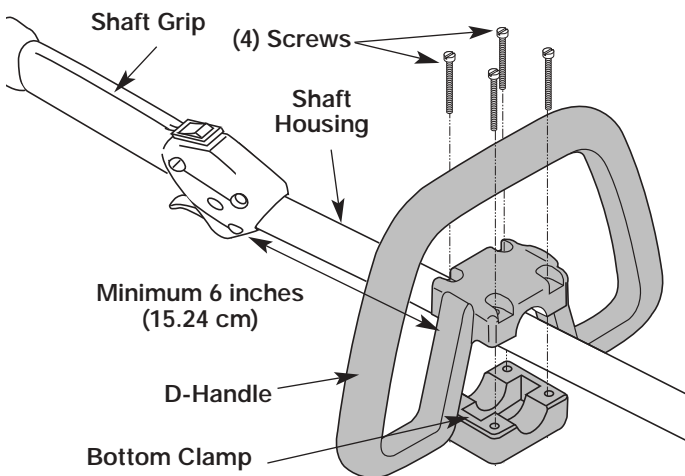

Fig. 2
2. Place D-handle over the shaft housing and onto the bottom clamp (Fig. 2). Place it a minimum of 15.24 cm (6 inches) from the end of the shaft grip.